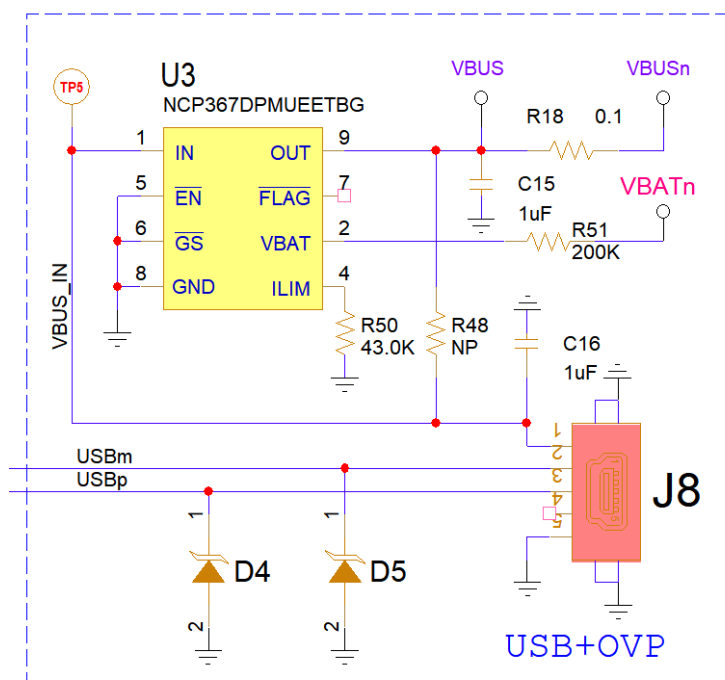

**Figure 57: PRO-Daughterboard Power Options**
- Battery/Power connectors (shown in Figure 57):